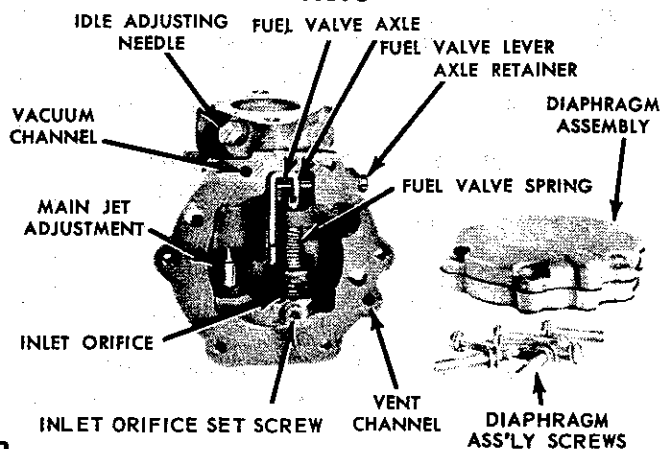

FIG. 6
8. Remove diaphragm cover assembly screws and complete diaphragm assembly. Fig. 6.
10. Remove axle retainer, fuel valve axle and fuel valve lever. Fig. 6.